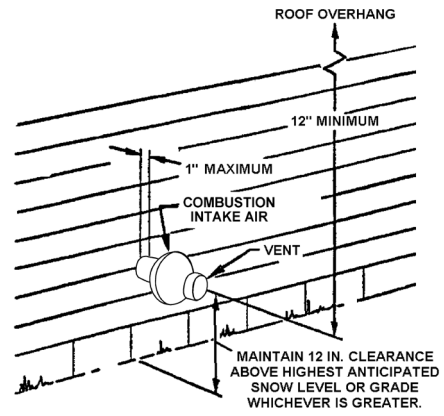
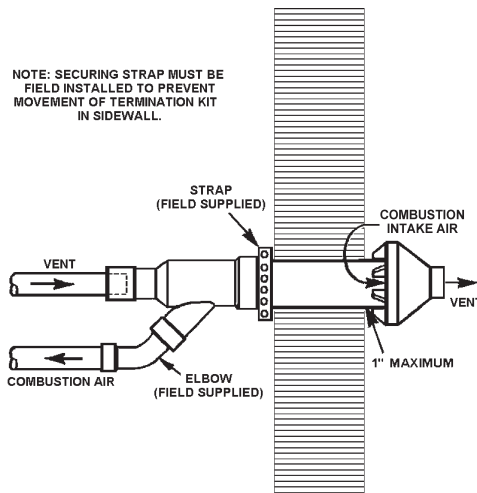

Figure: 29
Figure: 30
6. Secure assembly to structure as shown in "Figure: 29" using field-supplied metal strapping or equivalent support material.
NOTE: Ensure termination location clearance dimensions are as shown in the diagrams found in "Figure: 29" and Figure 30. When extending the length of the 4" pipe, the added length beyond 21-1/8" must be deducted from the maximum equivalent feet of vent pipe.
7. Cement heater combustion-air and vent pipes to concentric vent termination assembly. See Figure 30 for proper pipe attachment.